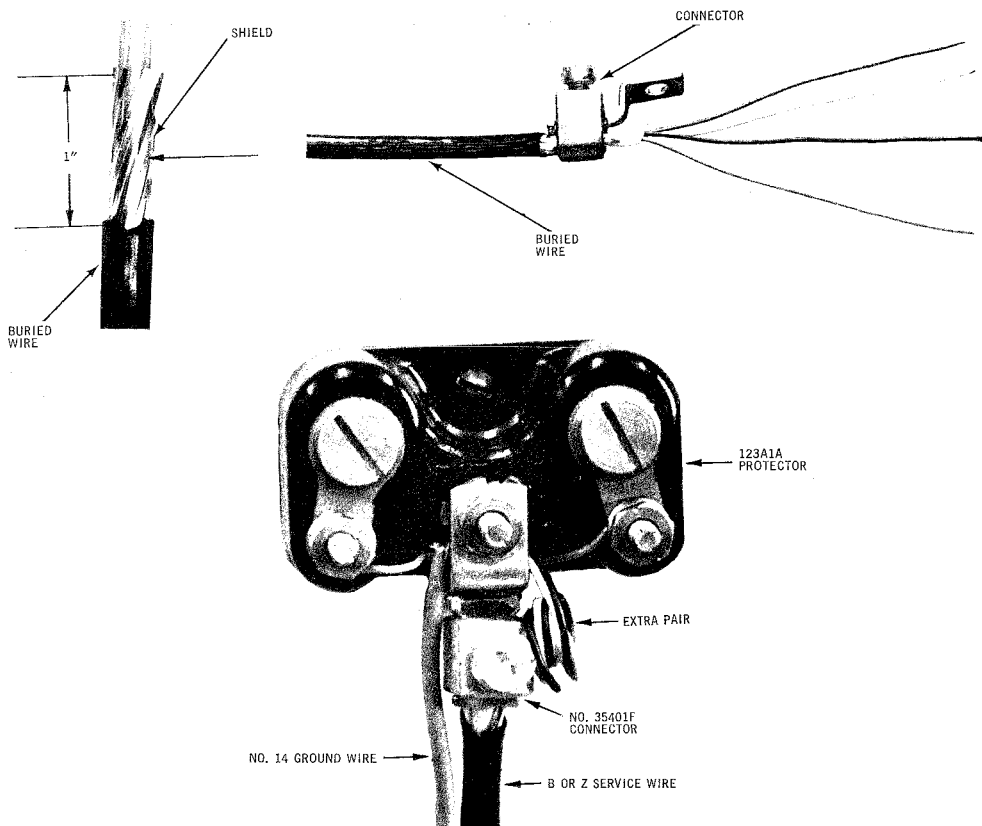

Fig. 15 — Buried Installation With 123 Type Protectors
4.19 Cut off the exposed armour on B or Z Service wire to a point 1 inch from the outer jacket. (Fig. 15) Remove the inner jacket leaving about $\frac{1}{8}$ inch beyond the end of the armour.
4.20 Insert the wire into the 35401F Connector centering the armour in the barrel. Tighten the bolt with a screwdriver. (See Fig. 15).
4.21 Place the pronged washer on the ground lug between the ground wire and the connector. Place the brass washers and nut on top of the connector and tighten the nut with the 216B or equivalent tool. (See Fig. 15).